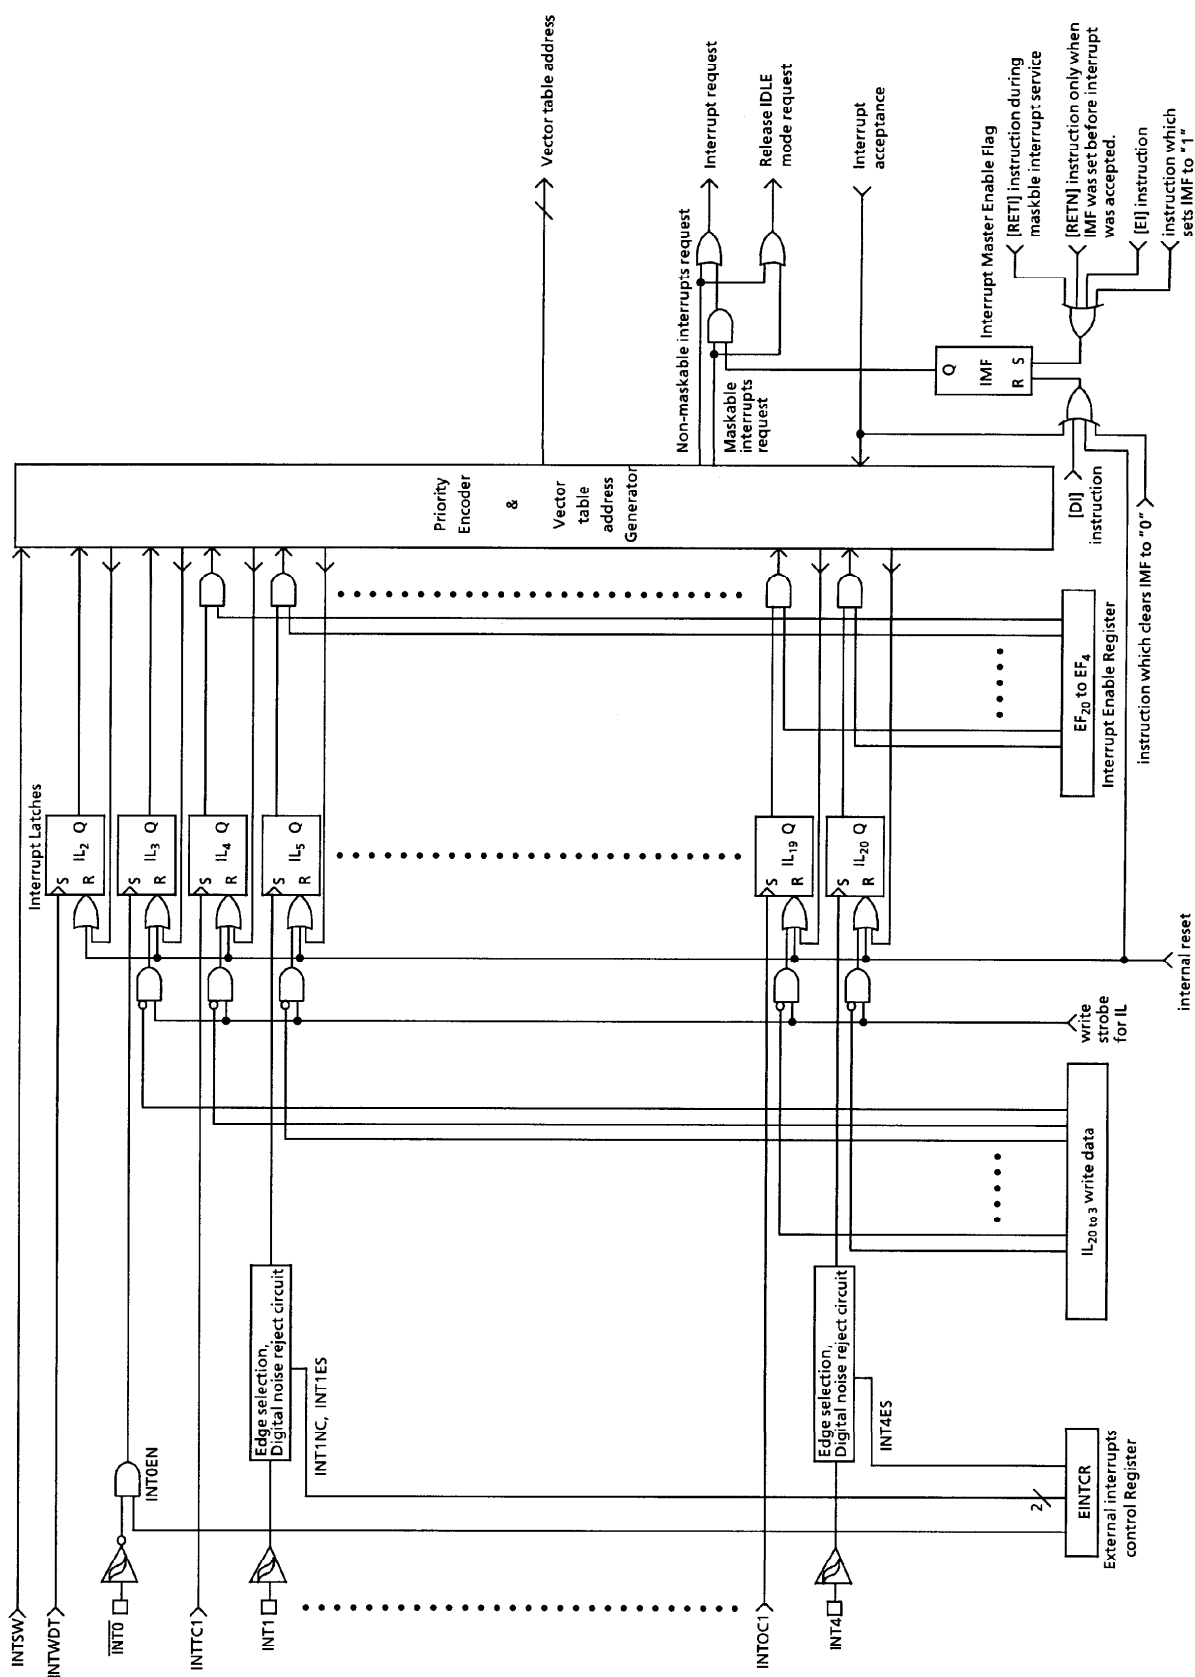

Figure 1-16. Interrupt Controller Block Diagram
The interrupt latch is set to "1" when an interrupt request is generated and requests the CPU to accept the interrupt. The acceptance of maskable interrupts can be selectively enabled and disabled by the program using the interrupt master enable flag (IMF) and the individual interrupt enable flags (EF). When two or more interrupts are generated simultaneously, the interrupt is accepted in the highest priority order as determined by the hardware. Figure 1-16 shows the interrupt controller.